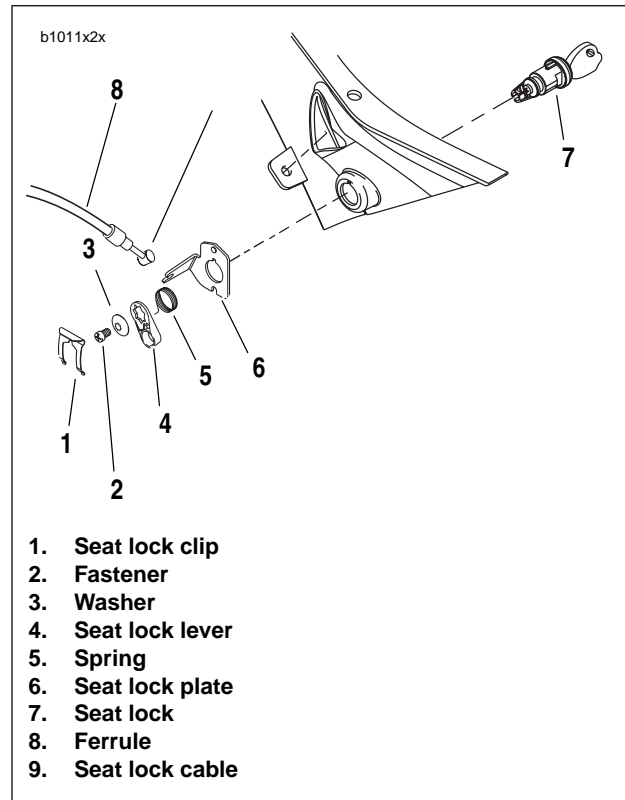

Figure 2-117. Seat Lock and Cable Assembly
3. See Figure 2-117. Disconnect passenger lock cable (9) by removing cable from seat lock plate (6) and ferrule from seat lock lever (4).
4. Remove seat lock lever (4) by removing fastener (2) and washer (3) from seat lock (7).
5. Remove spring (5).
6. Remove seat lock clip (1) by sliding from seat lock plate (6).
7. Remove seat lock plate (6) and seat lock (7).
1. See Figure 2-117. Install the seat lock (7) on to upper tail body work.
2. Install seat lock plate (6) by aligning plate tab onto seat lock (7).
3. Install seat lock clip (1) by sliding clip aligning clip groove onto seat lock plate (6) tab.
4. Position short tab of spring (5) into seat lock notch.
5. Position long end of spring into the seat lock lever (4).
6. Load the spring (5) by turning the seat lock lever (4) counterclockwise 1/4 turn.
7. Once the spring is loaded, install the seat lock lever (4) onto the lock aligning the lever to the square groove that is cast into the seat lock (7).
8. Fasten the lock lever (4) to the seat lock (7) with the washer (3) and fastener (2).
9. Install the ferrule (8) of the seat lock cable (9) into the seat lock lever (4).
11. Install the seat lock cable (9) into the seat lock plate (6).